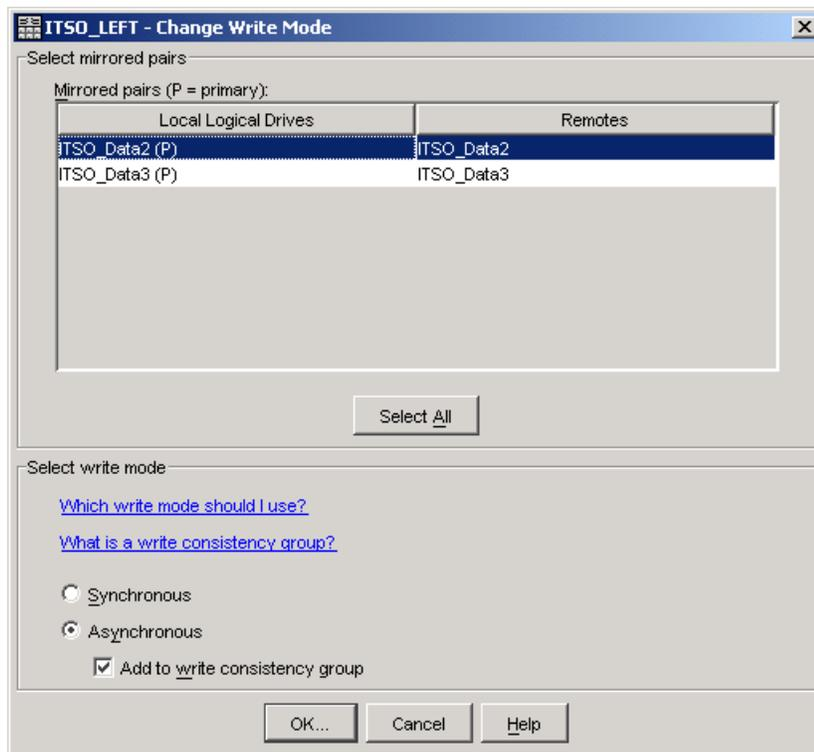

Figure 8-46 Change Write Mode dialog
2. The Change Write Mode dialog is displayed. The Select logical drives list box lists all primary logical drives in the storage system. The primary logical drive that you selected to invoke the option is highlighted (Figure 8-46).